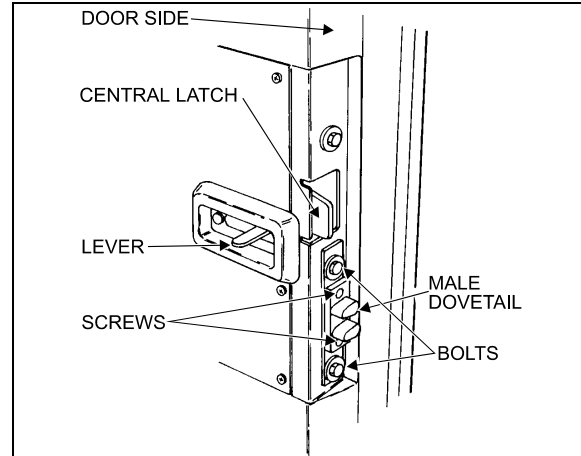

FIGURE 19: DOOR LATCH (COACH) 18059
2. Remove the Allen button head screw and the washer retaining the rod end with bearing to the upper hinge. See figure 19.
3. Remove the Allen button head screw and the washer retaining the ball and socket rod to the upper hinge. See figure 19.
3. Remove the Allen button head screw and the washer retaining the rod end with bearing to upper hinge. See figure 19.